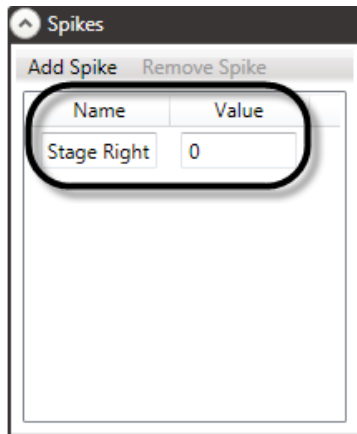

Figure 219
*In the example in Figure 219, the **Name** of the Spike is “Stage Right” and the **Value**, or where the Spike will be placed, is position “0.”*